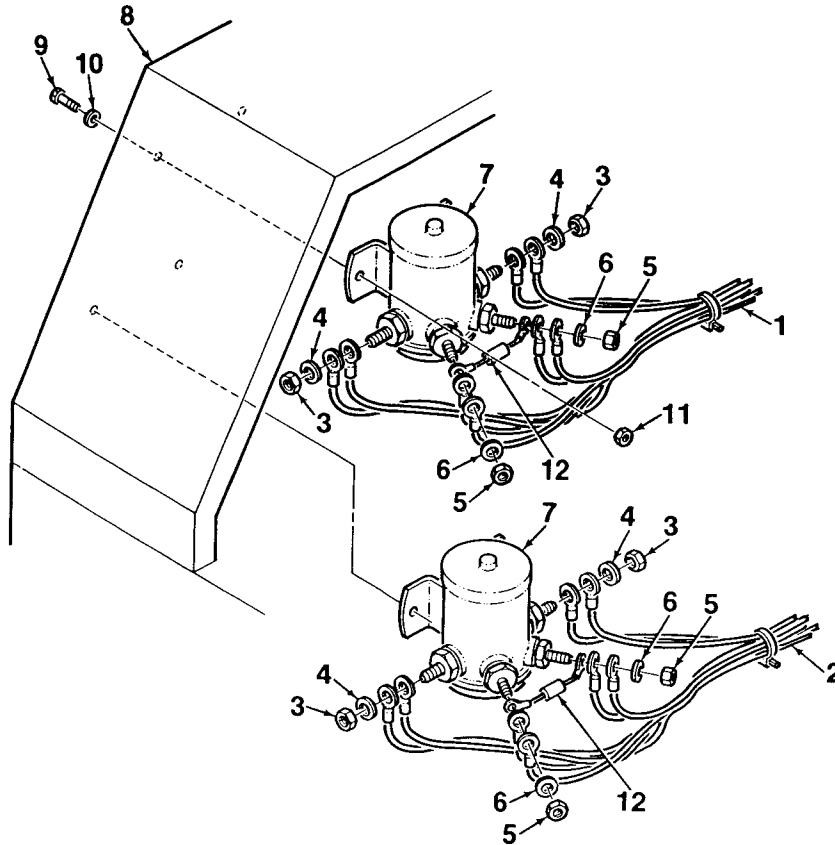

Figure 4-48. DC Magnetic Contactors
2. Remove two DC magnetic contactors (7, Figure 4-48) from wall of enclosure (8) by removing screws (9), washers (10), and locknuts (11).
3. Tag and disconnect electrical wires (1, 2) from DC magnetic contactors (7) by removing nuts (3, 5) and washers (4, 6). Remove voltage suppressors (12).
1. Connect electrical wires (1, 2, Figure 4-48) and voltage suppressors (12) to DC magnetic contactors (7) using nuts (3, 5) and washers (4, 6).
2. Mate two DC magnetic contactors (7) to the rear wall of enclosure (8). Secure using screws (9), washers (10), and locknuts (11).